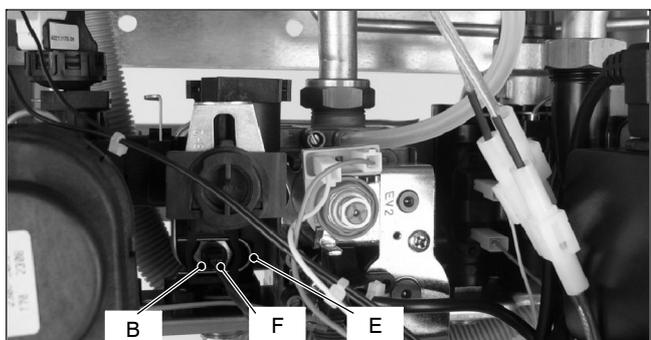

Fig. 4
- 3 Remove the fixing spring E (Fig. 4).
- 4 Remove the electric connector F and unscrew the d.h.w. Temperature probe B (Fig. 4).